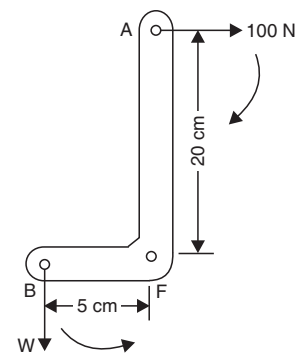

Fig. 3.27
**Example 3.3.** Fig. 3.27 shows a bell crank lever. Determine the magnitude of the load lifted perpendicular to the weight arm *FB*, 5 cm long when a force of 100 N is applied at *A* perpendicular to power arm *FA*, 20 cm long.